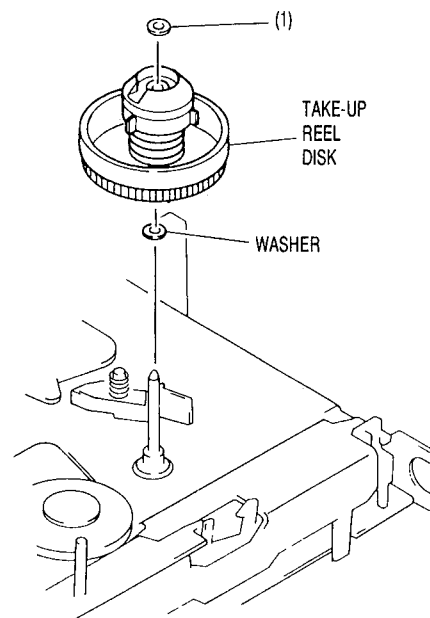

Fig. 3-16
- 1) Remove 1 washer (1). (See Fig. 3-16)